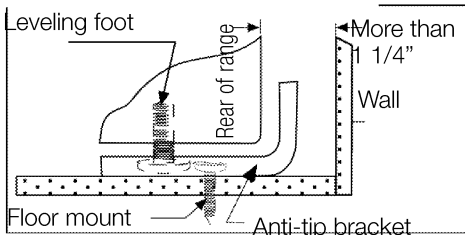

Fig. 3
1. The anti-tip device has to be attached to the rear wall as shown in Figure 3.